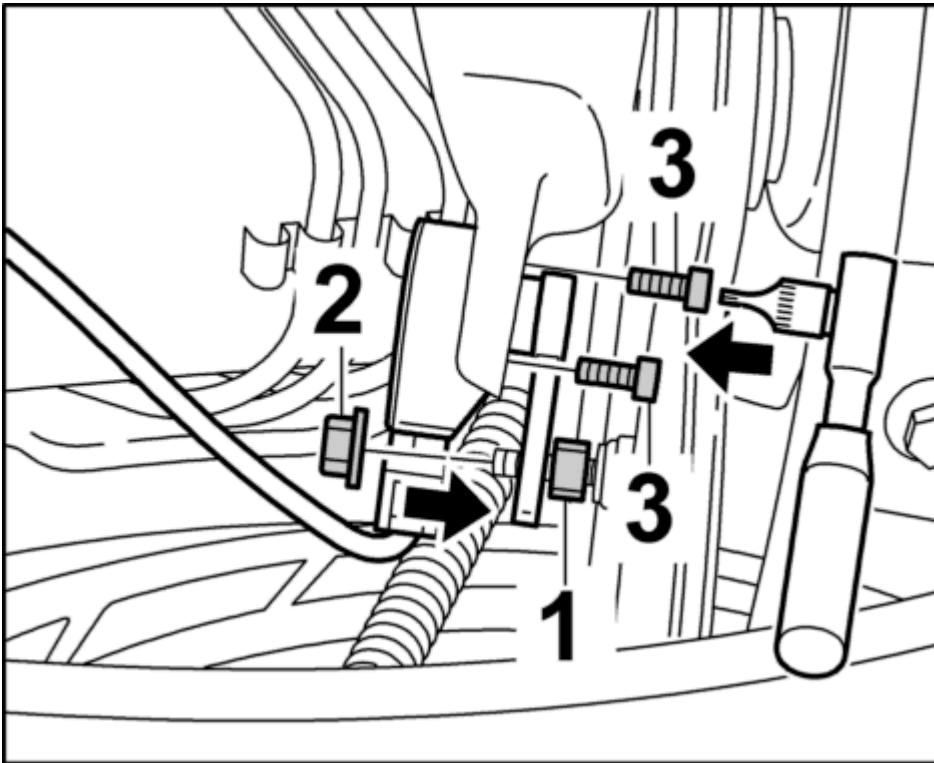

Fig. 16: Engaging lever of self-levelling sensor and positioning sensor
2. Tighten fastening screws -3- --> **43 TW Tightening torques - as of MY 2003 (Cayenne TIP, Cayenne MAN, Cayenne S TIP, Cayenne S MAN, Cayenne Turbo)**. See **Fig. 16**.
4. Position the fastening nut -2-, counter with an open-ended wrench on the two flats -1- and tighten the nut --> **43 TW Tightening torques - as of MY 2003 (Cayenne TIP, Cayenne MAN, Cayenne S TIP, Cayenne S MAN, Cayenne Turbo)**. See **Fig. 16**.